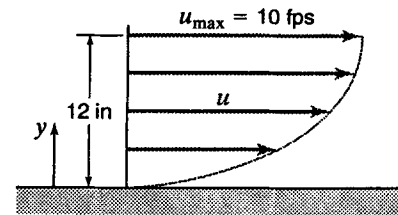

Figure X2.11.11
2.11.11 Assuming a velocity distribution as shown in Fig. X2.11.11, which is a parabola having its vertex 12 in from the boundary, calculate the velocity gradients for  $y = 0, 3, 6, 9,$  and  $12$  in. Also calculate the shear stresses in  $\text{lb}/\text{ft}^2$  at these points if the fluid's absolute viscosity is  $600 \text{ cP}$ .